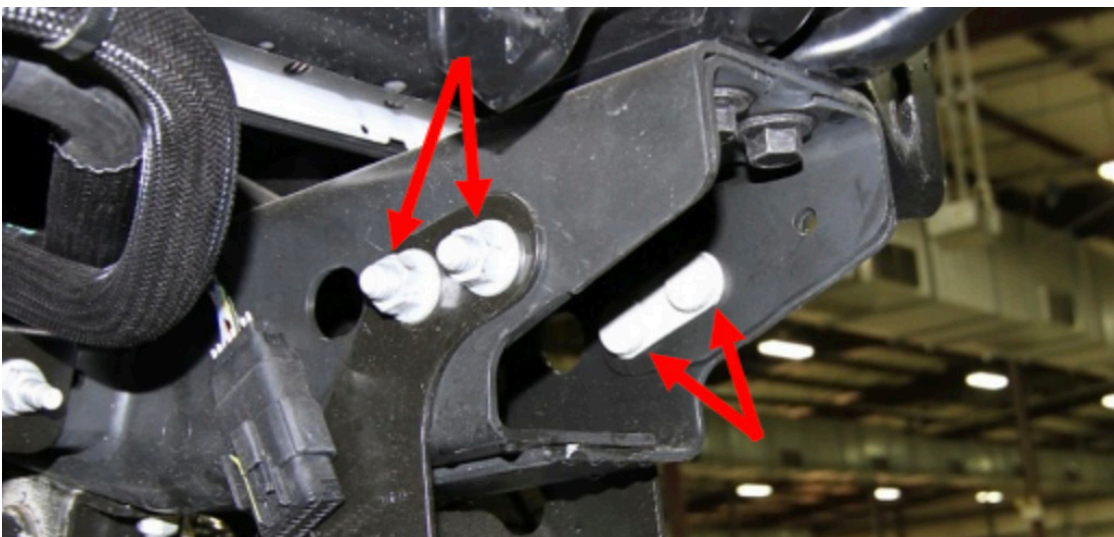

Figure 34
27. Using an 18mm socket wrench, reinstall the previously removed underrun guard bolt strips. Figure 34